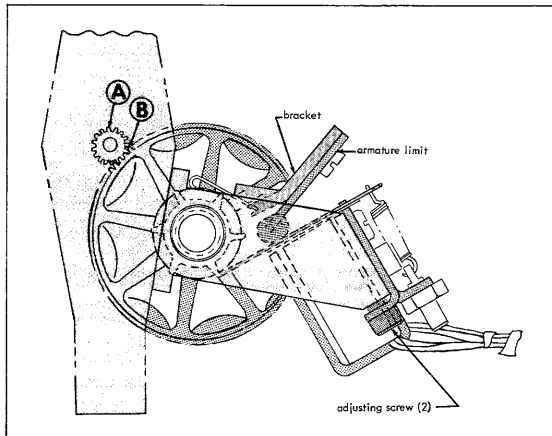

Figure 10
On the outer rim of each clutch is a gear (B, Figure 10), which is engaged with the gear (A) of a corresponding punch drive eccentric. Pulsing an escapement allows the corresponding clutch to advance one-sixth revolution, which in turn advances the eccentric one full revolution, thereby executing one full punch stroke.
To record a character in the tape, an electric pulse is applied simultaneously to the electromagnets of the escapement assemblies which control the punches required for the character. When the electromagnets are energized, the corresponding armatures are momentarily disengaged from the clutch control sleeves, permitting the clutch assemblies to rotate one-sixth turn. The gear on the periphery of the clutch assembly rotates the corresponding eccentric one full revolution (Figure 10), sending its punch through one up and down cycle to perforate the tape.